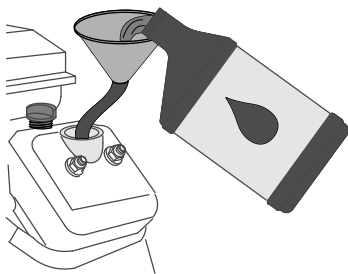

Figure 71
6. If the oil level is low, wipe off the area around the filler neck and add the specified oil (Figure 71) until the oil level is between the hatch marked areas on the dipstick.